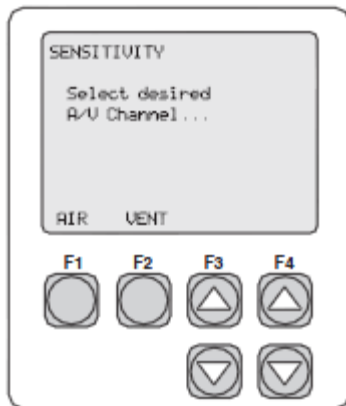

Figure 5
- Depress “F1” (ATR). Figure 5
- To test with reverse polarity, depress “F1” (RESTART). Figure 5
- Depress “F2” (VENT). Figure 5